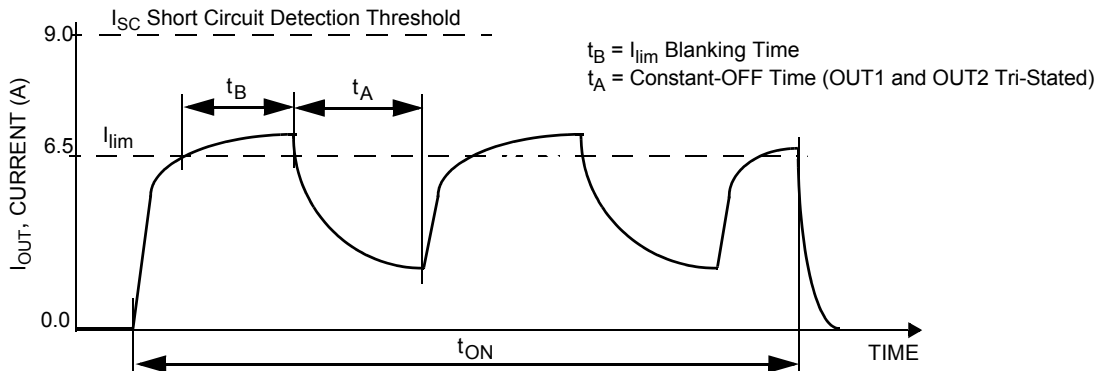
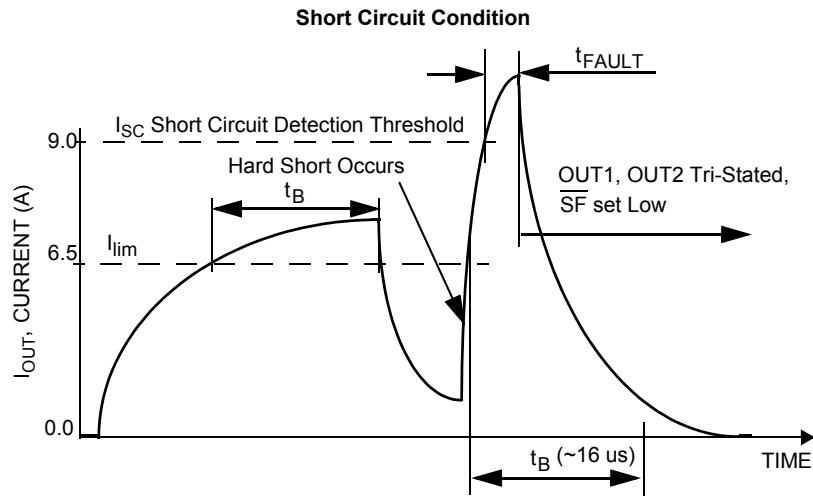
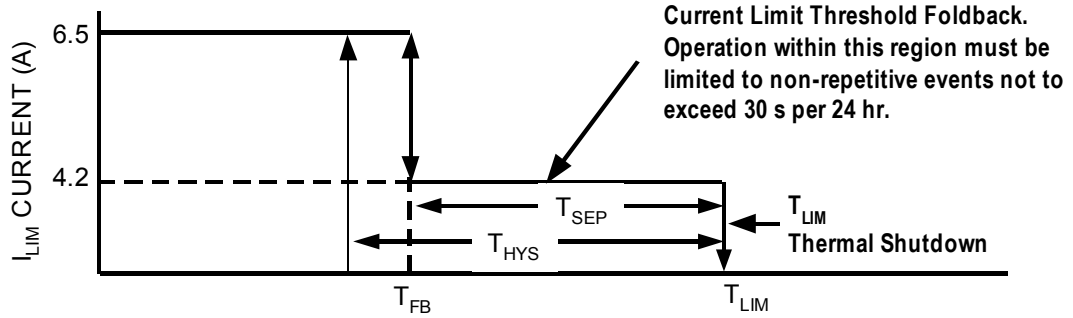

Figure 7. Current Limit Blanking Time and Constant-OFF Time
Figure 8. Short Circuit Detection Turn-OFF Time t_{FAULT}
Figure 9. Output Current Limiting Foldback Region
- Load currents ramping up to the current regulation threshold become limited at the I_{LIM} value (see Figure 7). The short circuit currents possess a di/dt that ramps up to the I_{SCH} or I_{SCL} threshold during the I_{LIM} blanking time, registering as a short circuit event detection and causing the shutdown circuitry to force the output into an immediate tri-state latch-OFF (see Figure 8). Operation in Current Limit mode may cause junction temperatures to rise. Junction temperatures above $\sim 160^\circ\text{C}$ will cause the output current limit threshold to "fold back", or decrease, until $\sim 175^\circ\text{C}$ is reached, after which the T_{LIM} thermal latch-OFF will occur. Permissible operation within this fold back region is limited to non-repetitive transient events of duration not to exceed 30 seconds (see Figure 9).